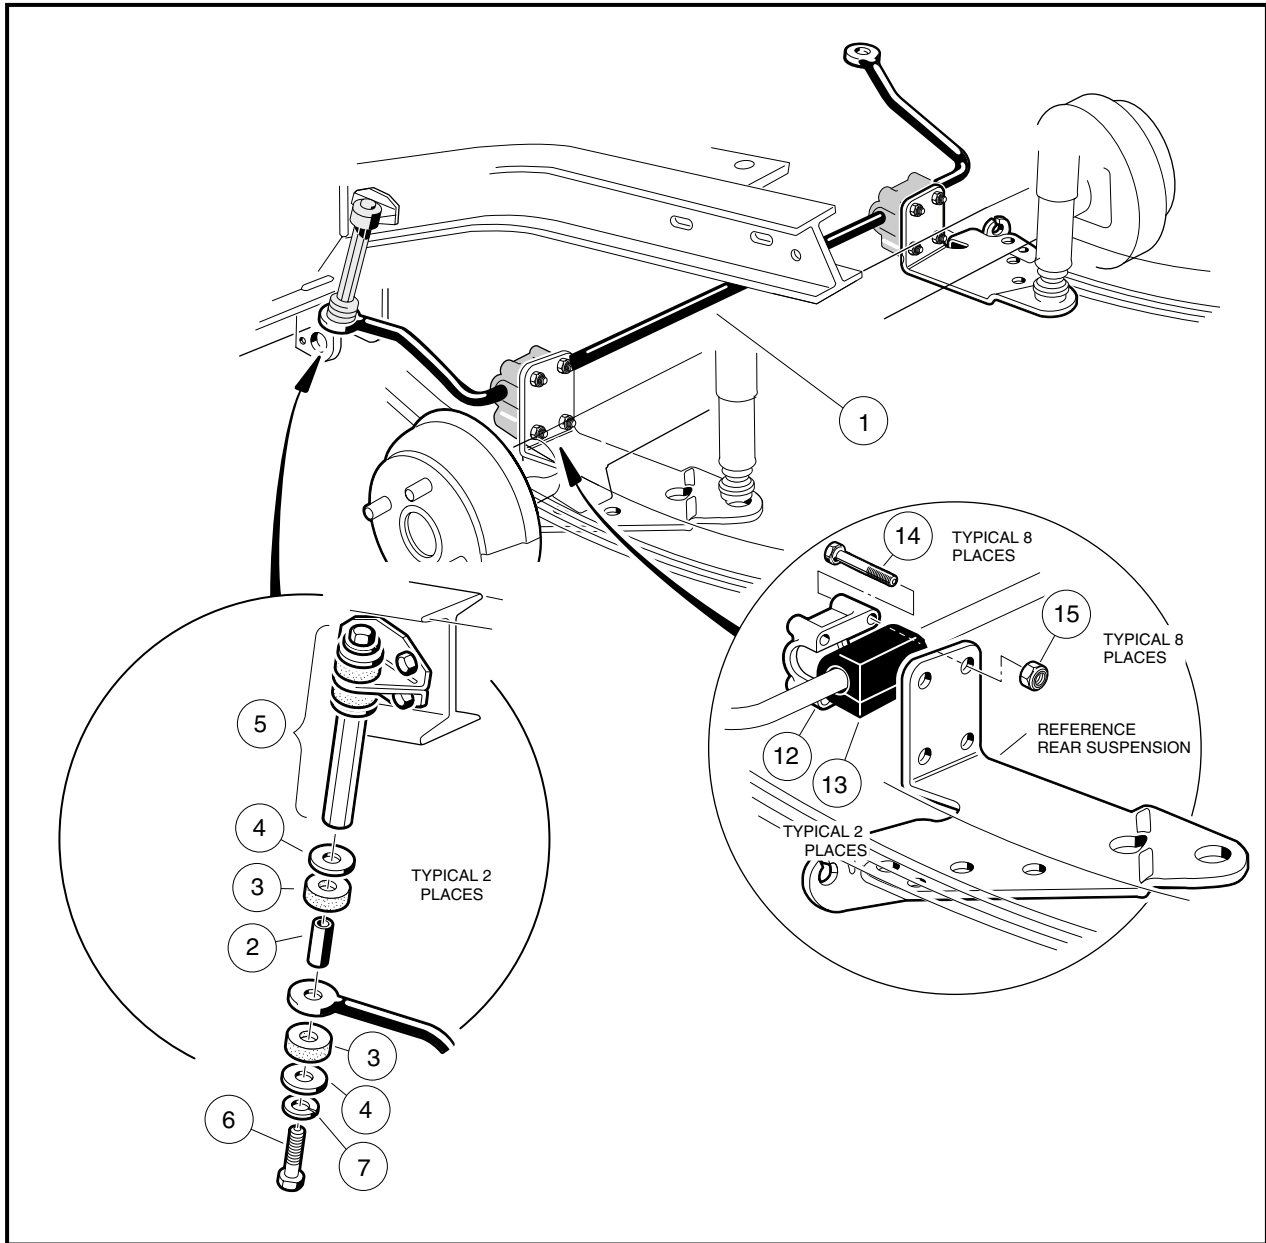

Figure 9-6 Stabilizer Bar
2. Remove bolt (6), lock washer (7), flat washers (4), compression mounts (3) and spacer (2) from left and right stabilizer bar links (5). Do not remove the stabilizer bar links from frame (**Figure 9-6, Page 9-8**).
3. Remove bolts (14) and locknuts (15) from the left and right stabilizer bar bushing support (12) and remove supports and stabilizer bar (1) from vehicle (**Figure 9-6, Page 9-8**).
4. Remove bushings (13) from stabilizer bar (1) (**Figure 9-6, Page 9-8**).
1. Position stabilizer bar at the transaxle mounting brackets. Install a bushing (13) onto bar, making sure the bushing is located in the center of the four mounting holes in the bracket (**Figure 9-6, Page 9-8**).
2. Place the bushing support (12) onto the bushing. Install four hex head bolts (14) through the bushing support and transaxle mounting bracket (**Figure 9-6, Page 9-8**).
3. Install four locknuts (15) and tighten to 75 in-lb (8.4 N·m).
5. Place lock washer (7), flat washer (4), spacer (2) and compression mount (3) onto bolt (6). Install bolt through mounting hole in stabilizer bar and place another compression mount (3) and flat washer (4) onto bolt (**Figure 9-6, Page 9-8**).
6. Install the bolt (6) with lock washer (7) through the upper stabilizer bar link mount (8) into the stabilizer bar link (5) and finger tighten.
8. Tighten bolts (6) in the stabilizer bar links (5) to 17 ft-lb (23 N·m).